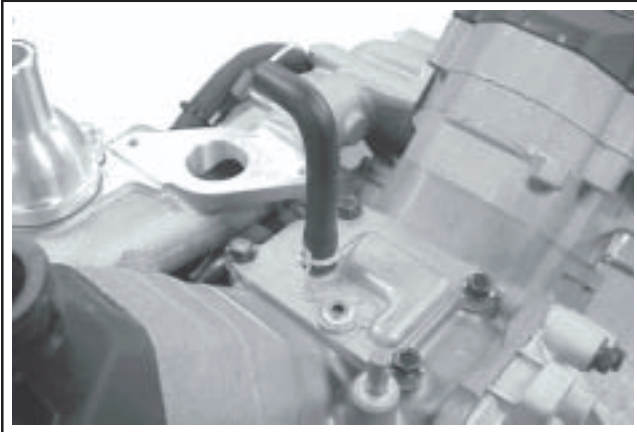

Figure 11-78. Breather Hose Installed onto Breather Cover.
1. If separated, install the breather tube to breather cover as shown in Figure 11-78.